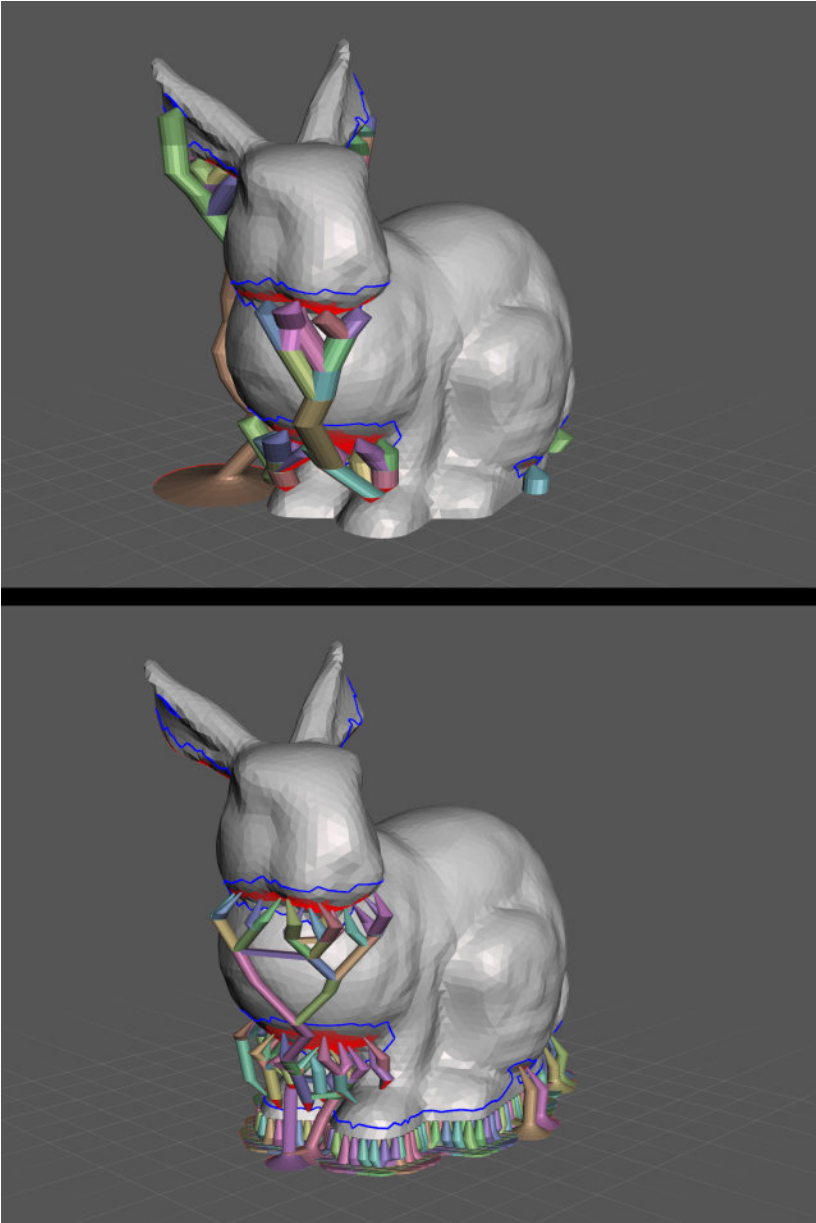

Figure 5-14. Differences in support structures generated in Meshmixer with the same overhang settings for an FDM printer (top) and SLA printer (bottom)
- All SLA prints experience adhesion between the newly cured layer touching the bottom of the vat and the build plate, or previously printed layers. In between actual printing, the printer will “rip” the print off of the bottom of the vat by moving upward, and then move downward again for the next layer to be cured. All resin prints have a platform that is printed first to prevent those strong forces from being applied to your model. Figure 5-14 shows the difference between SLA and PLA support structures, including the first layer of supports seen in SLA prints.